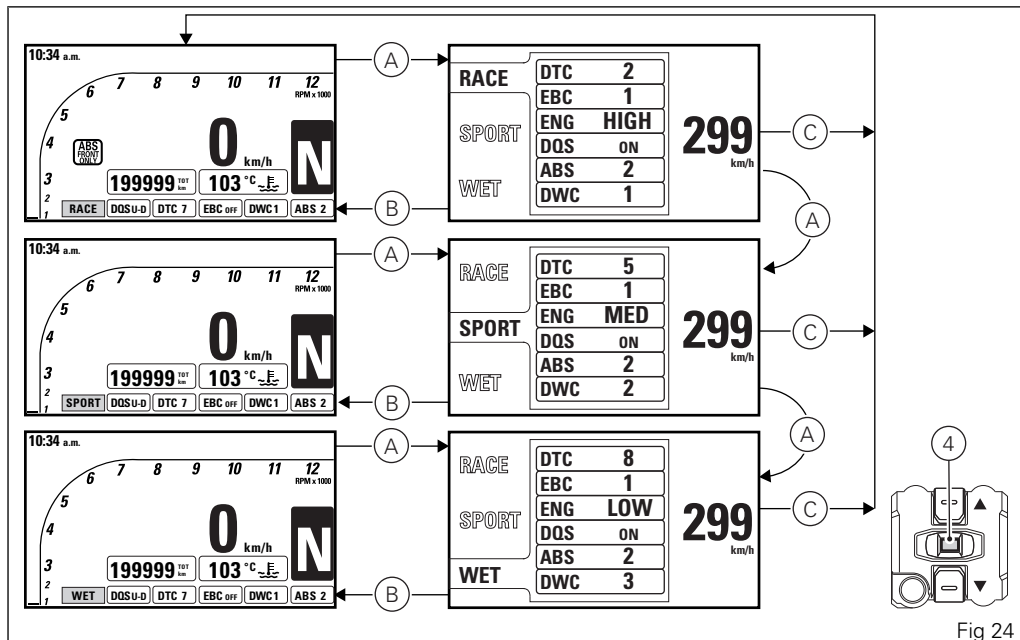

Fig 24
ones customized by the owner. Any time the CONFIRM MENU button (4) is pressed, you highlight a riding mode and the associated parameters are displayed (A, Fig 24).
Once the desired riding mode is highlighted, confirm the selection by holding down the CONFIRM MENU button (4) for 2 seconds: the new riding mode selection is saved and the Standard Screen is displayed (B, Fig 24).
Once the desired riding mode is highlighted, if the CONFIRM MENU button (4) is not pressed within 10 seconds, the new riding mode selection is not stored and the Standard Screen is displayed (C, Fig 24).